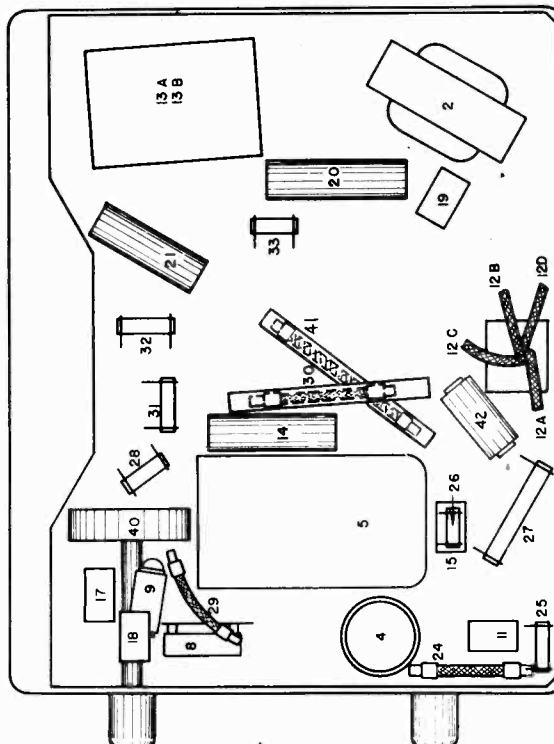

FIG. 4--PARTS LAYOUT--Bottom View
- (c) Change test oscillator setting to 600 K.C. and turn condenser rotor plates until this signal is tuned in. Adjust the antenna compensating condenser (illus. #8, Fig. 4), while rocking the condenser gang plates back and forth through the signal until maximum output is obtained. It will be necessary to readjust this trimmer to the car antenna upon installation.